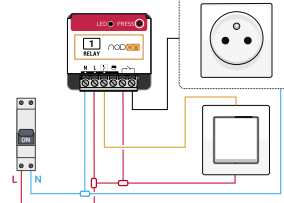

Figure 2
- Wire the Multifunction Relay Switch, following the diagram figure 2.